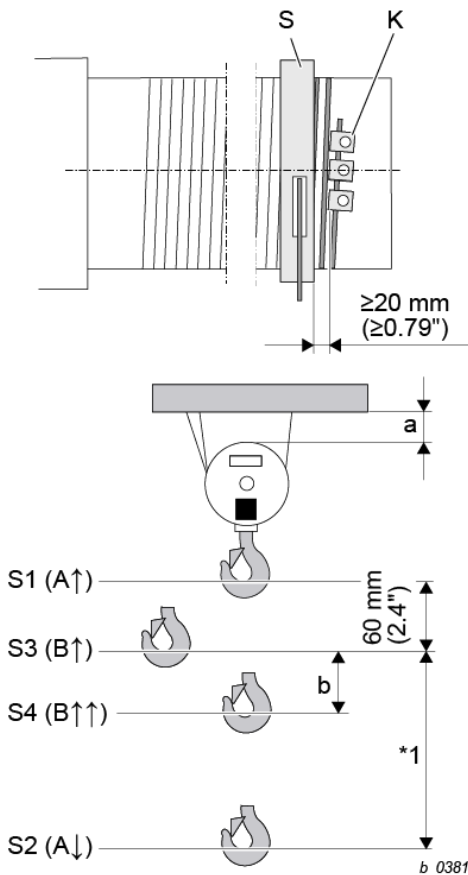

Fig. 81
4. YK/SK model: lower bottom hook block by "**b**" (Fig. 81, Tab. 35+Tab. 36).
(Minimum clearance between rope guide (S) and clamping claws (K) for rope attachment = **0.79 in.**, see Fig. 81 (for the rope fastening))